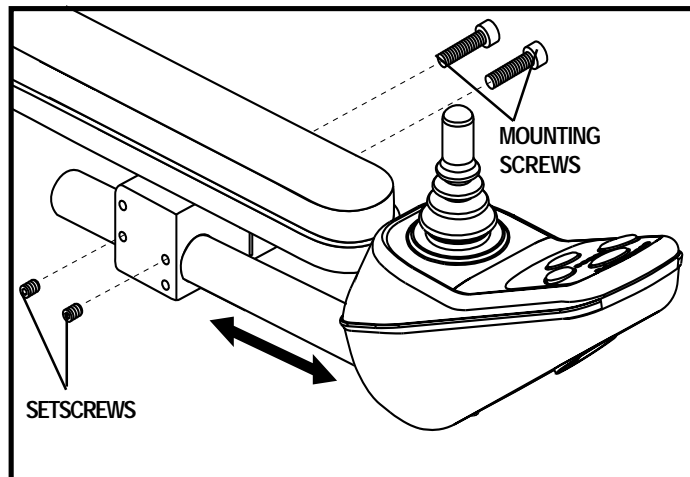
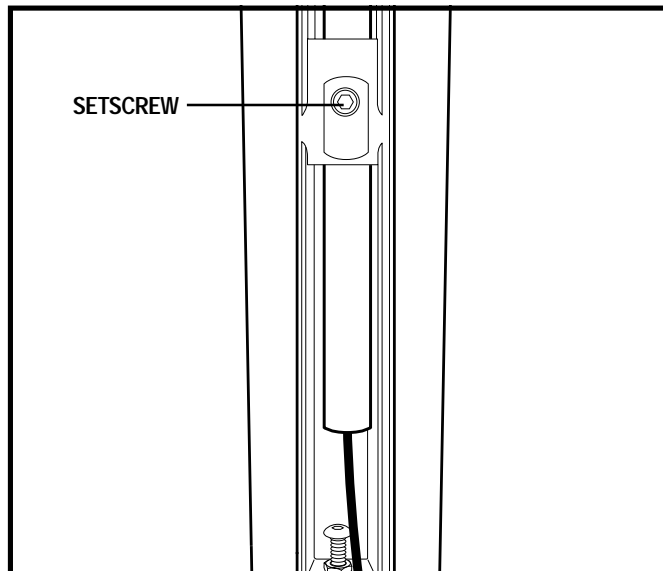

Figure 17. Controller Position Mounting Bracket
Figure 18. Controller Position - Underside of Armrest
5. On a standard seat, loosen the mounting screws in the mounting block. See figure 17. On a contour seat flip the armrests and loosen the setscrews. See figure 18.